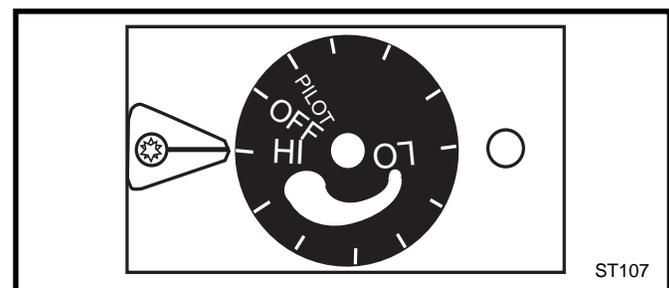

Fig. 24 UVS27M/SIT Control Valve in ON position.
8. **SIT (Manual valve):** Turn gas control knob counterclockwise  to anywhere between low and high as you desire. (Fig. 24)